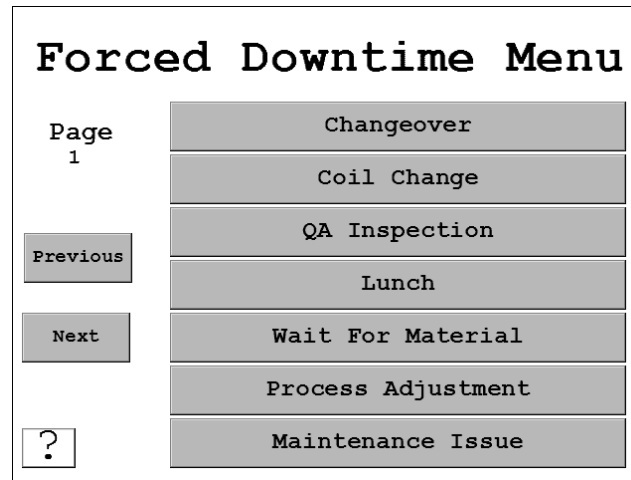
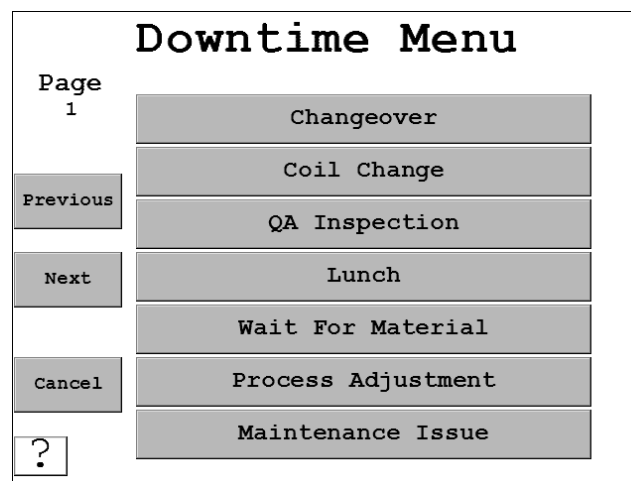

Figure 4-14 Forced Downtime Menu
Figure 4-16. Downtime Menu Screen
Whenever the machine being monitored by the SMI 2 has been idle for the length of time specified by the Forced Dialog Timer (Figure 3-28, page 65), the Forced Downtime Selection screen appears (Figure 4-14).
1. On the Main Menu, press *Downtime*. The Downtime Menu screen displays (Figure 4-16, page 90). This screen is identical to the Forced Downtime Menu screen (Figure 4-14, page 88) except